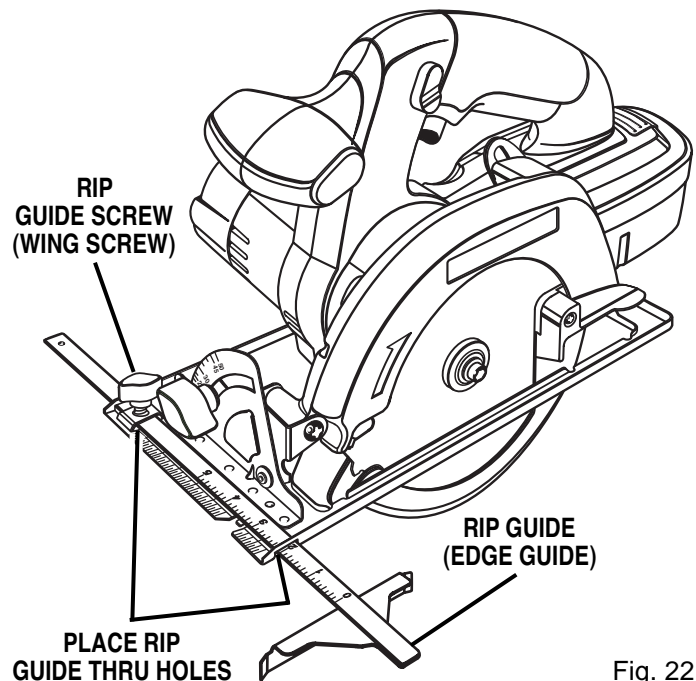

Fig. 22
- Place rip guide through holes in saw base as shown in figure 22.